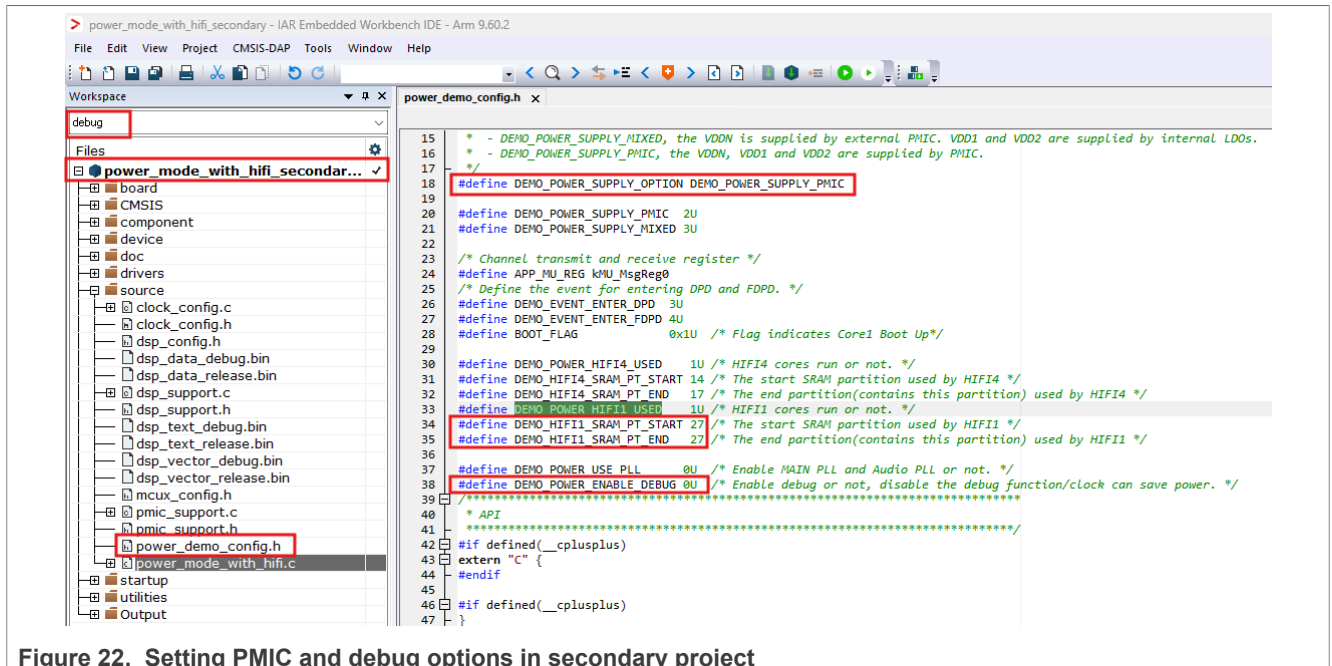

Figure 22. Setting PMIC and debug options in secondary project
6. Open the power_mode_with_hifi project, then access the secondary project and first select the debug_target. Update the DEMO_POWER_SUPPLY_OPTION and DEMO_POWER_ENABLE_DEBUG settings as shown in Figure 22. After making these changes, compile the secondary project.
- Note:** Different SDK versions can have varying default configurations, but these configurations must be updated to match the same as in Figure 22.